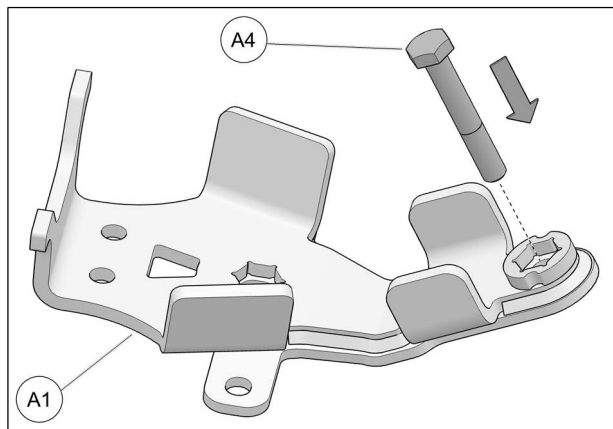

Fig. 13
4. Insert M10x65mm bolt (**A4**) in front anchor brackets (**A1**). See Fig. 13